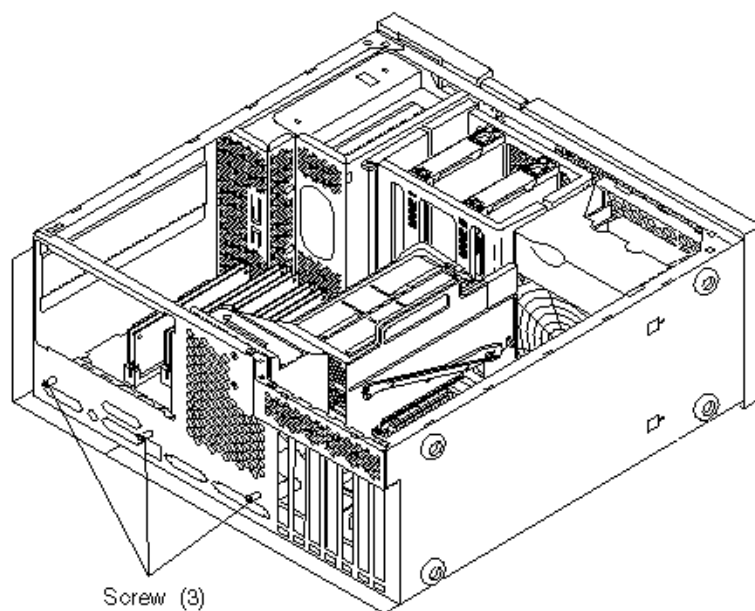

Figure 10-7 Removing and Replacing the Motherboard (Part 1 of 2)
- Remove the three screws securing the motherboard to the chassis (Figure 10-7).
- Replace the three screws securing the motherboard to the chassis (Figure 10-7).